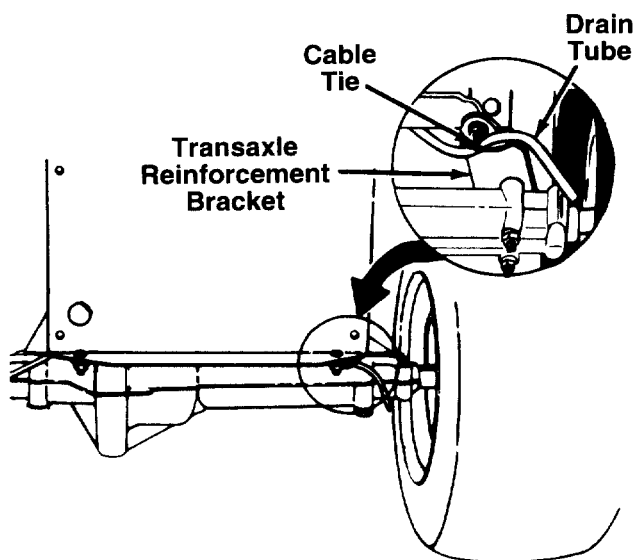

FIGURE 5.
6. Insert the drain tube through the cable tie which is attached to the transaxle reinforcement bracket on the **right** side of the unit. See figure 5. Be certain drain tube is routed away from the wheel rim. Pull on end of cable tie to tighten (do not collapse drain tube). Trim excess end of cable tie.